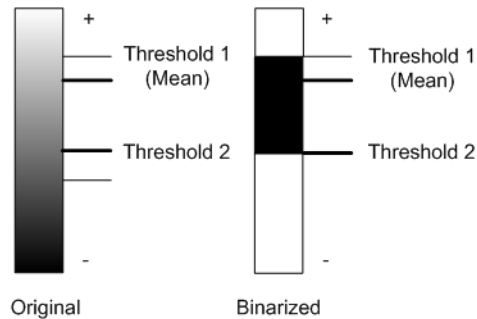

Figure 7-45 The Binarizer thresholds
- c) If the **Dual** checkbox is checked, two different threshold values can be defined and the Binarizer will sort the data based on the values which are between or outside the two Thresholds. See Figure 7-45 on page 382.